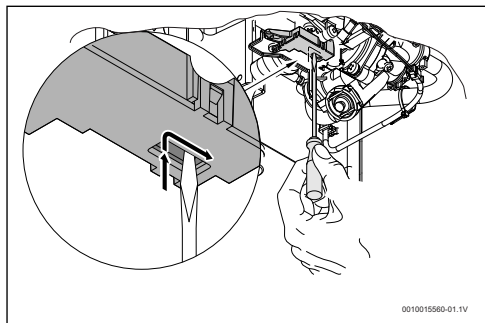

Fig. 25 Rearme do micro-interruptor
- Posicionar o micro-interruptor conforme Fig 25.